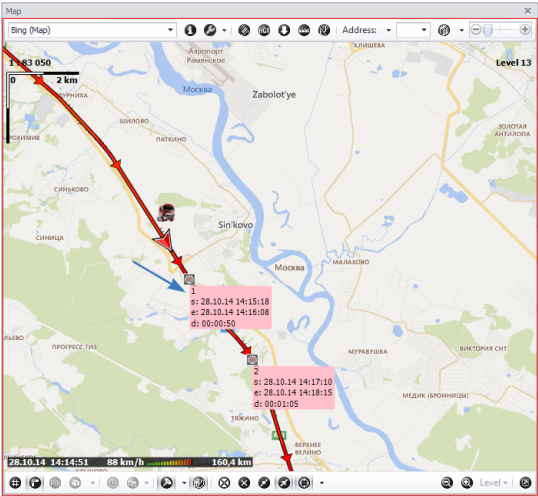

Fig. 128. Example of stage labels.
- **Index** – sequential number of the stage (Fig. 128, index 10). The index is used to search for a desired stage in viewers synchronized with Stages viewer.
- **The stage start and end times** (Fig. 128, start – string s; end – string e).
- **Duration** of the stage (Fig. 128, string d:).